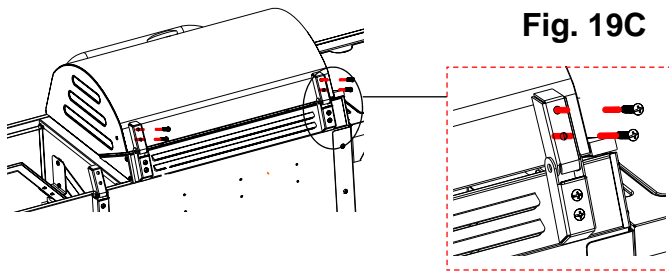

Fig. 19C
Refer to Fig.19C, attach gas grill lid and (2) Hinge Assemblies as shown using (4) M6X35 Bolts.